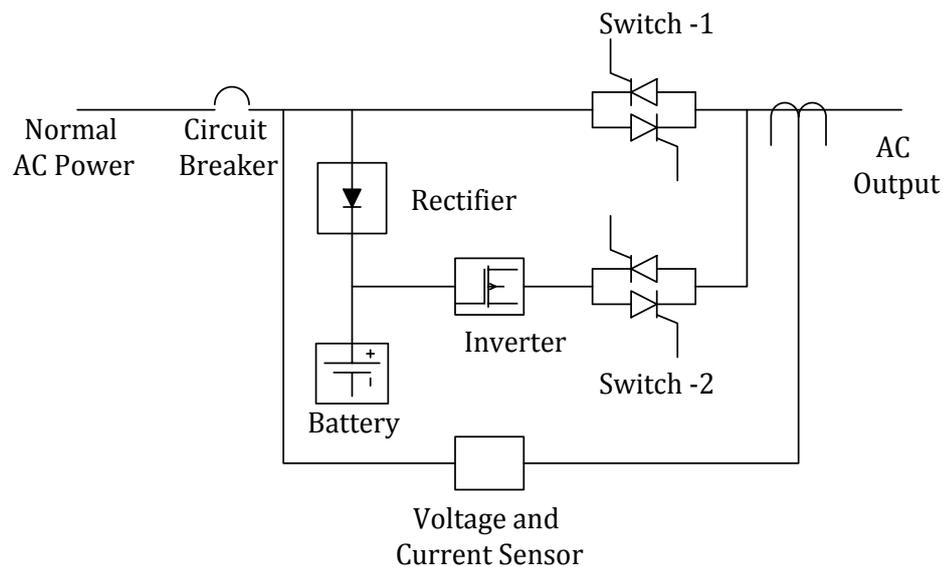

Figure 2.6 Offline UPS system
- As shown in figure 2.6, in the offline units, the loads are normally supplied from the primary electrical source directly. The primary electrical source may be utility power or an in-house generator. If the primary power source fails or falls outside preset parameters, the power to the loads is switched to the batteries and the inverter.